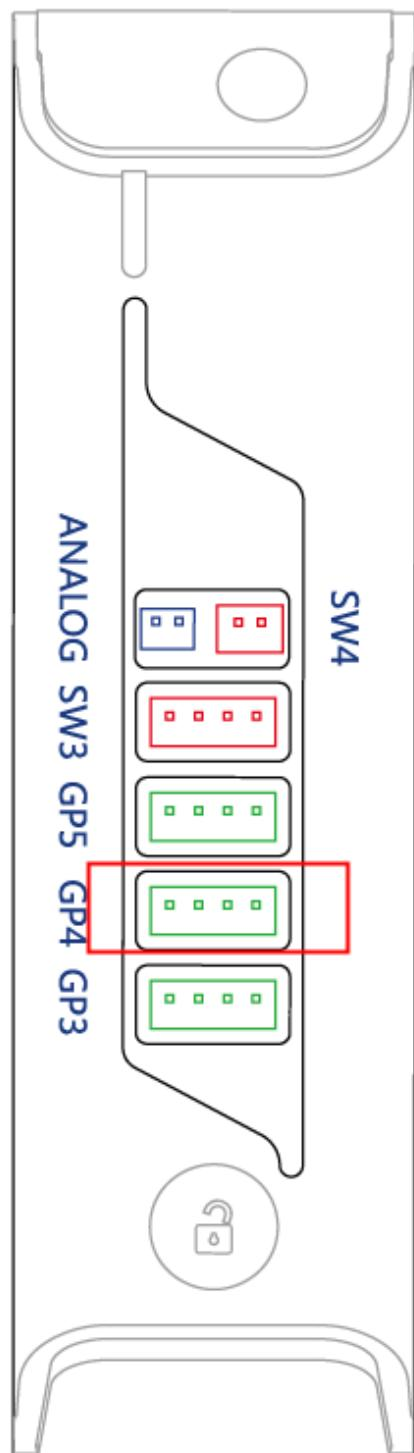

Figure 5.156 Insert the cable of the auto-levelling
**Step 3** Insert the cable of the auto-levelling tool to the interface **2** on the Forearm, as shown in Figure 5.156.